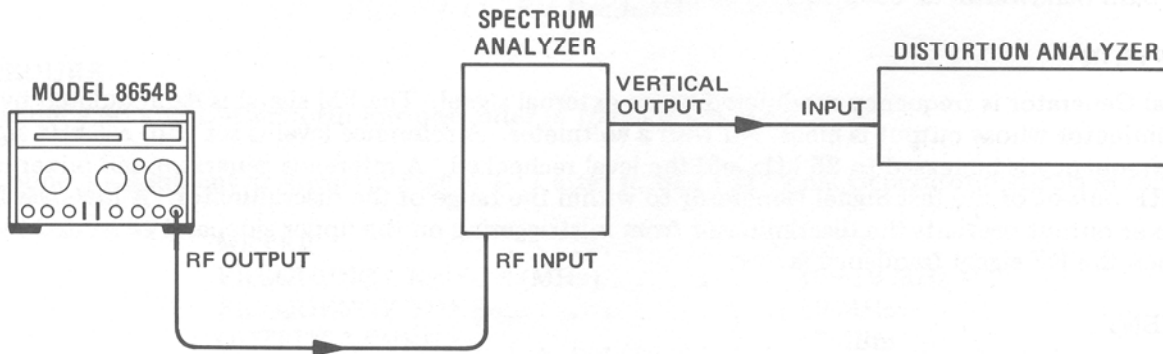

Figure 4-10. AM Distortion Test Setup
1. Connect equipment as shown in Figure 4-10 after setting Signal Generator controls as follows: